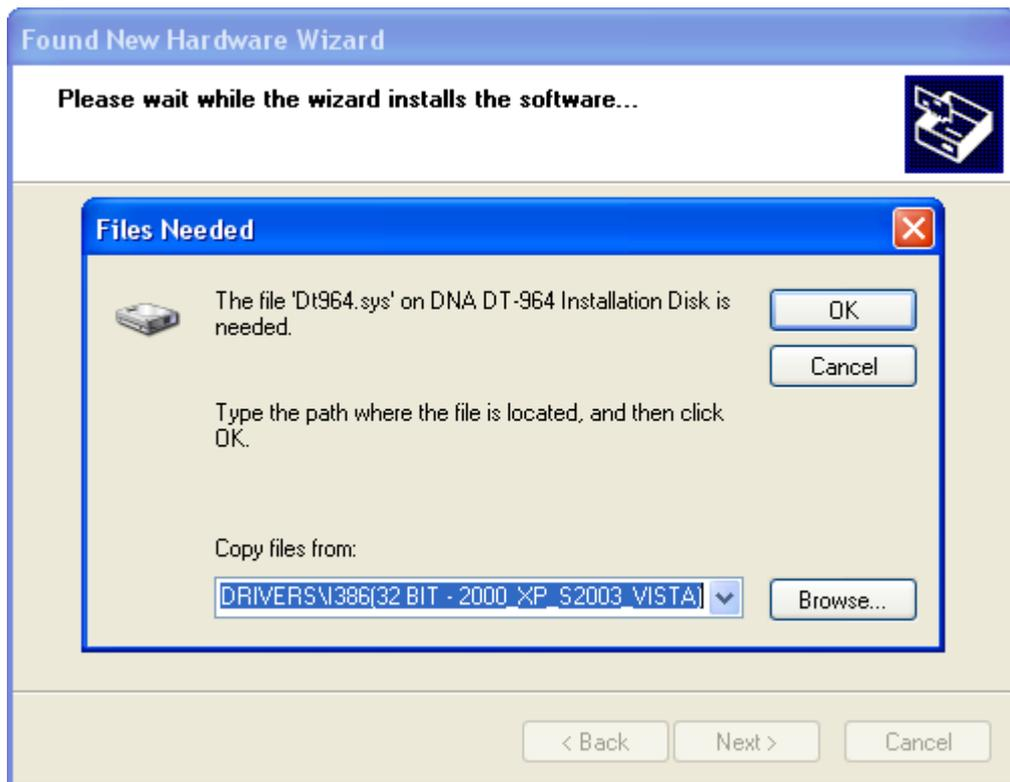

Fig.11. Selecting the path to Dt964R.sys file on the CD
- Select the path to Dt964.sys file on the CD by clicking **Browse** (Fig. 11).
- Making sure that the path to the file in the window (Fig.11) is correct, click .